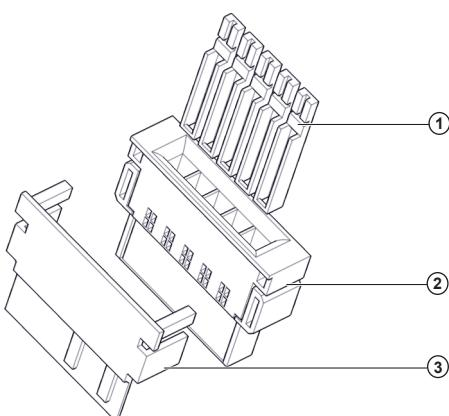

Figure 4.5 Itemised description of the CAN connector
Figure 4.5 shows a CAN connector with the pins (1), connector (2) and extra anchoring (3).